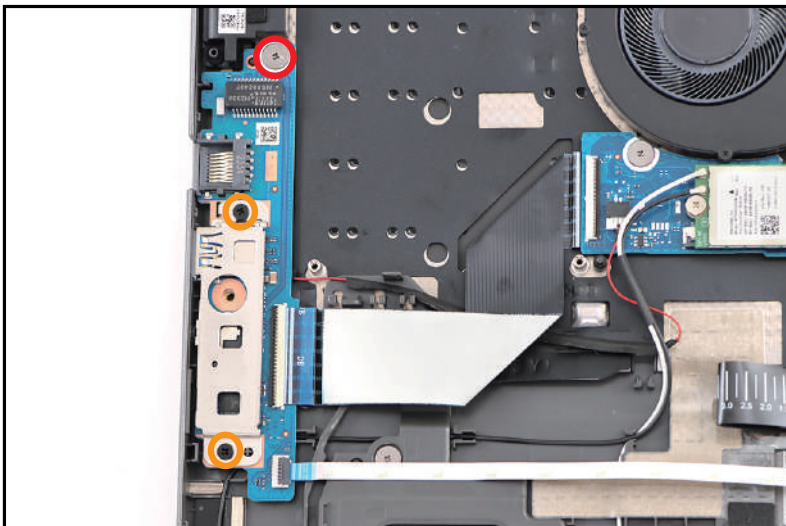

Figure 3-133. Replacing the USB Board
5. Install three (3) screws to secure the USB board and left IO bracket (Figure 3-133).